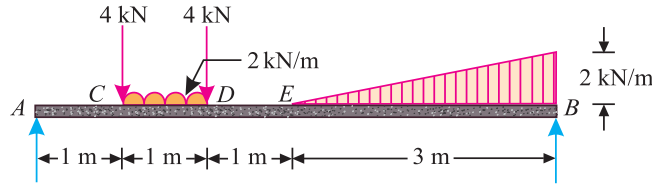

Fig. 12.10.
**Example 12.4.** A simply supported beam AB of 6 m span is subjected to loading as shown in Fig. 12.10.